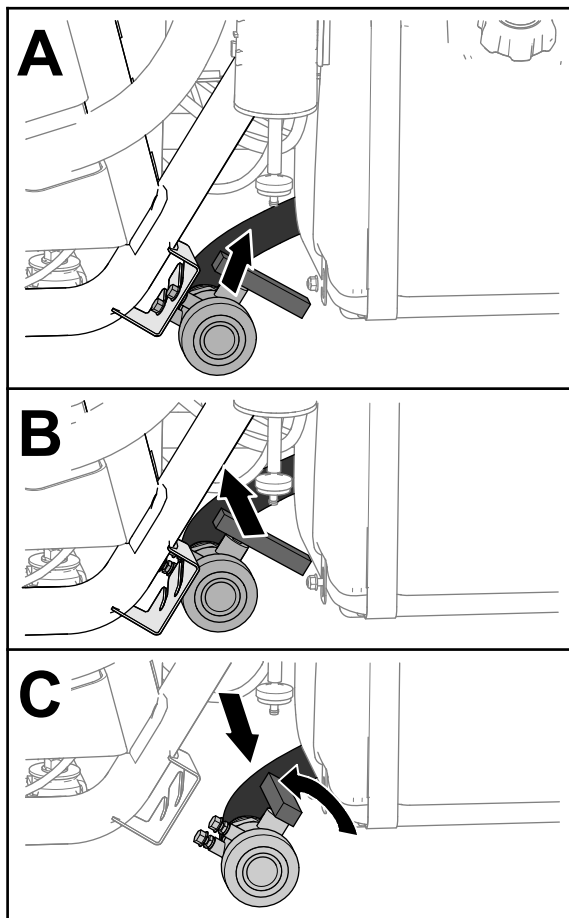

Figure 27
2. Locate the tank-drain valve at the left side of the machine, forward of the fuel tank (Figure 27).
3. Lift the valve and move it inboard until the mount studs of the valve clear the slots in the drain-valve bracket, and move the valve rearward (Figure 27).
4. Align the end of the valve with the drain container and rotate valve handle counterclockwise to the open position (Figure 27).
5. When the tank has drained completely, rotate the drain-valve handle to the closed position and assemble the valve onto the drain-valve bracket (Figure 27).